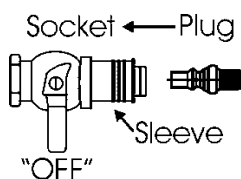

Fig. 5-15
- Place the handle in the "OFF" position and push back the sleeve. Valve handle must be in the "OFF" position to make the connection. (Fig. 5-15)